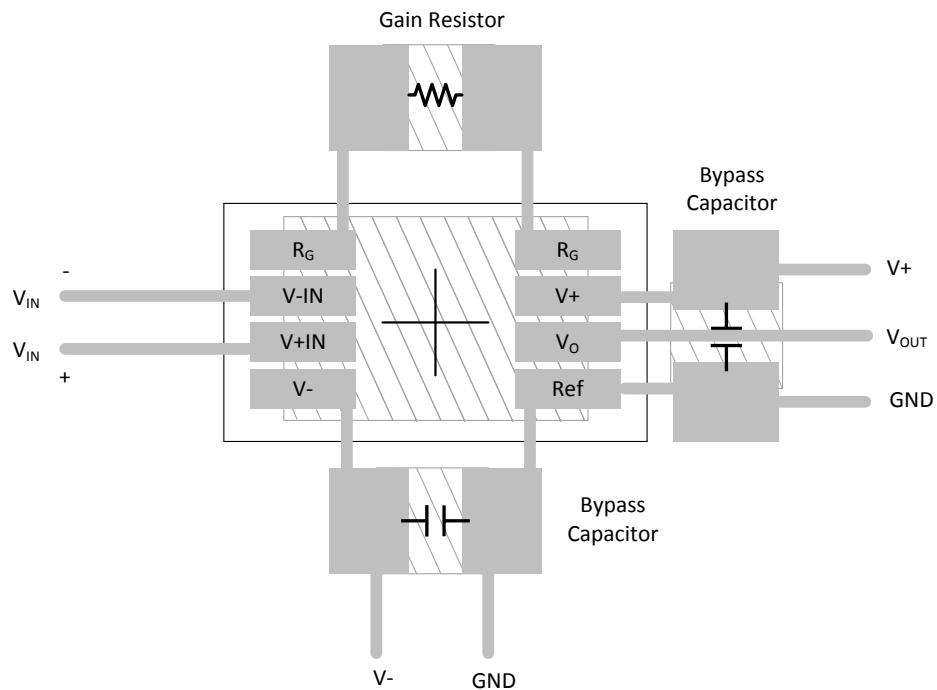

Figure 26. Layout for All Single INA126 Versions
- Place the external components as close to the device as possible. As illustrated in Figure 26, keeping  $R_G$  close to the pins minimizes parasitic capacitance.